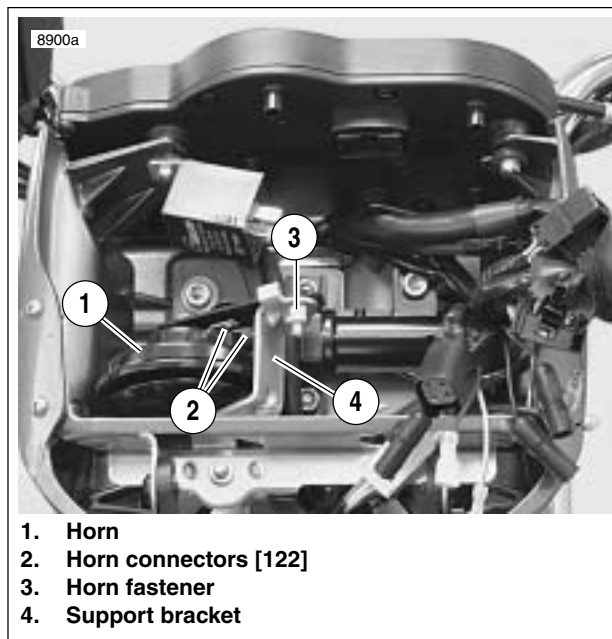

Figure 7-70. Horn Assembly
4. See Figure 7-70. Remove fastener (3).
5. Remove horn (1) from fairing support bracket (4).
2. See Figure 7-70. Attach horn (1) to fairing support bracket (4) using fastener (3). Tighten to 72-96 **in-lbs** (8.1-10.8 Nm).